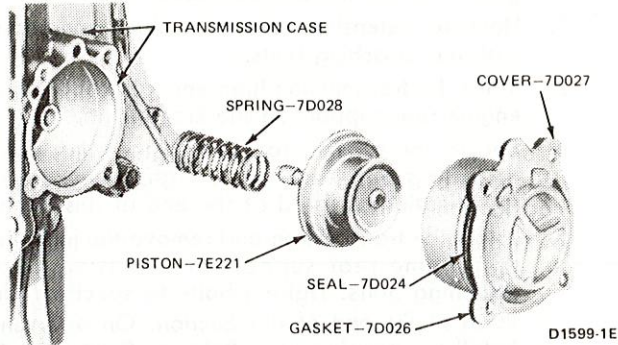

FIG. 5 Intermediate Servo Disassembled—Typical
(Refer to Fig. 5.)
9. Replace the complete piston and rod assembly if the piston or piston sealing lips are damaged, (Fig. 5).